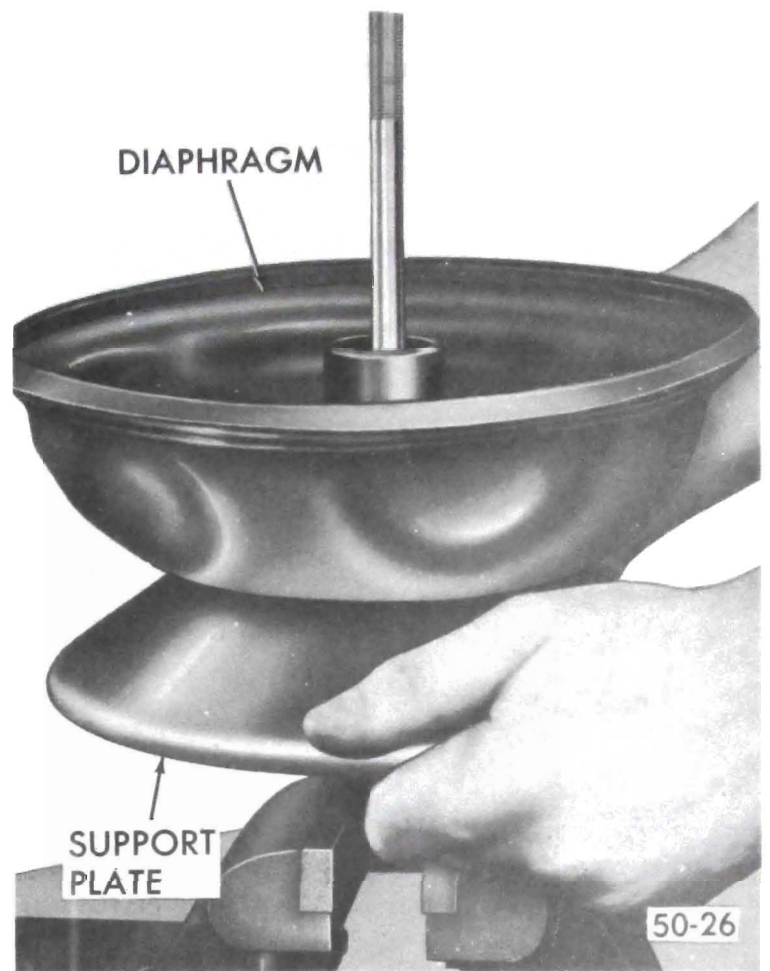

Figure 50-107 Positioning Power Piston on Support Plate Remover
6. Pull diaphragm edges away from support plate so hands can grip steel support plate. Position assembly on power piston Wrench J-21524 so three lugs on tool fit into three notches in power piston. See Figure 50-107.